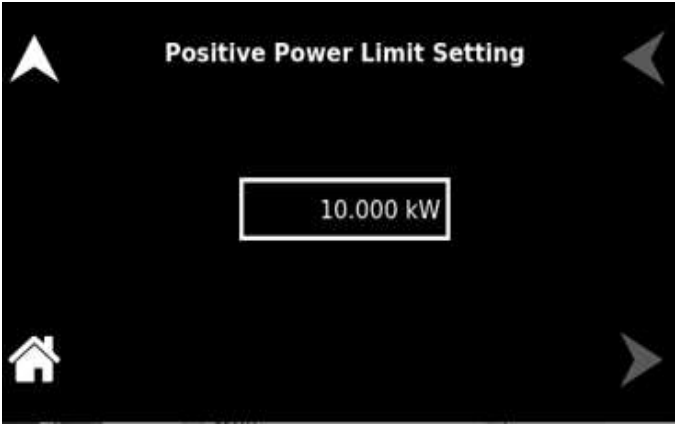

Figure 8-20. Positive Power Limit setting screen
**Pos. Power Limit**      User can set the Positive power limit value which functions as a trip limit (CV and CV/CC), or it regulates (CV/CP) the output upon reaching the Positive Power Limit. Refer to Figure 8-20.